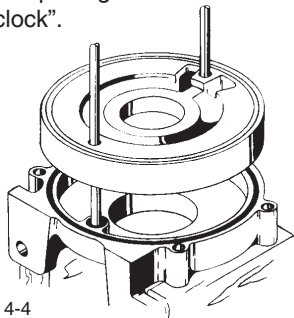

Figure 4-4
- Place an "O" ring (#7) into the groove in the face of the cover (#1). Slide a left hand channel ring (#10) onto the guide rods with the water channel facing up.(refer to figure 4-4) With the pump feet in the "six o'clock" position, the large inlet opening should be at "eleven o'clock".